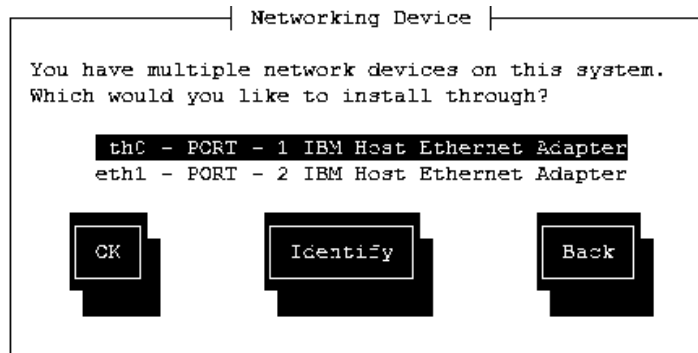

Figure 8-10 Select network device
5. Select the networking device to install the image from, as shown in Figure 8-10 on page 345